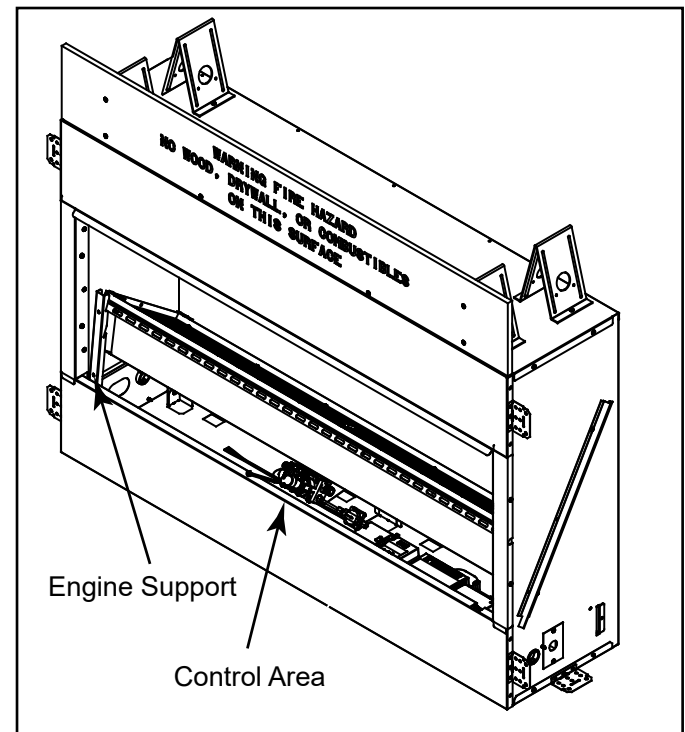

Figure 5.2 - Valve Access
The valve and controls are located in the appliance control area. See Figure 5.2.
The controls area can be accessed by lifting engine assembly as shown in Figure 5.2.
- Remove two (2) screws securing burner assembly to appliance, set aside.
- Lift the burner assembly and place the two engine supports, provided under the engine, against lower front space at the bottom of the face, and slide into the slots at the bottom of the engine assembly. See Figure 5.2.
NOTE: This appliance does include a manual gas shutoff valve that is located in the valve compartment. This manual gas shutoff valve is accessible for service by lifting the engine assembly. See Figure 5.2. The valve is most accessible if it is located forward in the control cavity of the appliance.